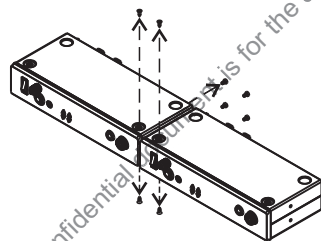

Fig. 5
- (B) Watch the color of the L/R Input Quality Indicator ❸ and adjust the proper gain by the L/R-LEVEL Buttons ❷ until the green indicator (OK) lights on.
- (C) Orange indicator (LOW) indicates the audio input signal or gain is set too low.
- (D) Red indicator (PEK) indicates the audio input signal or gain is set too high.
- (E) When the audio input signal continues to be too high, the screen will display "CLIP !" warning message to denote the sound distortion. It is necessary to check if the input signal level is set too high to avoid distortion.
- (F) During the setting process, plug the headphone into the monitor jack on the transmitter, and watch the color of OLED indicators to adjust the proper input level, and then turn on the receiver to monitor the sound.
- (A) Insert a 6.3 Ø or 3.5 Ø headphone into the Headphone Jacks ③ ④ , and adjust Volume Control ② to the adequate volume.
- (B)  Warning: Permanent noise-induced hearing damage or loss may occur on prolonged exposure to loud sounds wearing earphones or headphones.
- (C) Minimize the volume level before the headphone is inserted.
- (A) Remove top and bottom screws, as Fig. 5
- (B) Insert top and bottom plates to joint two transmitters. Fasten screws.